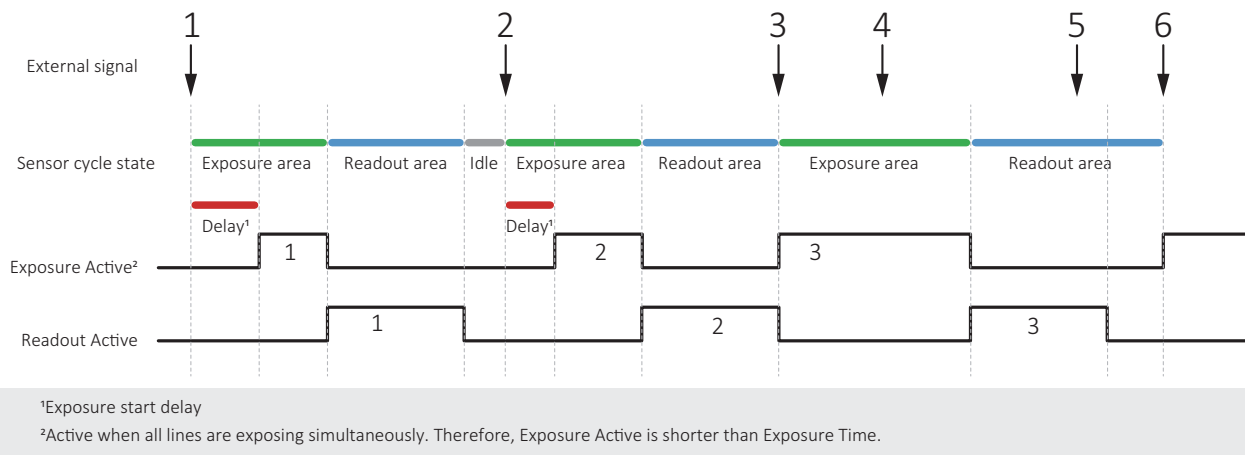

Figure 65: Triggering rolling shutter (RS) cameras
This section describes triggering behavior for **1500 C-210m/c** and **C-500m/c**, and for **1800 C-1240m/c** and **C-2050m/c**. Figure 65 shows how an external signal triggers exposure and readout for cameras with rolling shutter (RS) sensors. Like for global shutter (GS) sensors, readout has a constant duration, acquisition must be active to enable exposure, the end of exposure starts readout.
The signals displayed in Figure 65 represent logical states, not user controls.